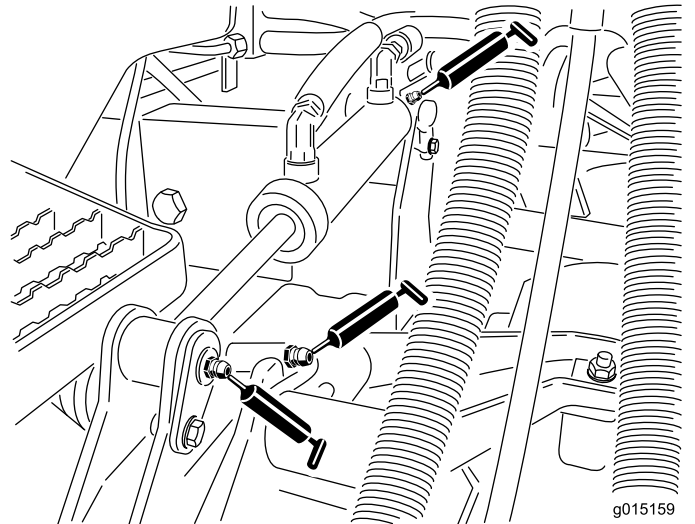

Figure 82
- Lift arm bushings (1 per cutting unit) (Figure 82)
- Lift cylinder bushings (2 per cutting unit) (Figure 82)